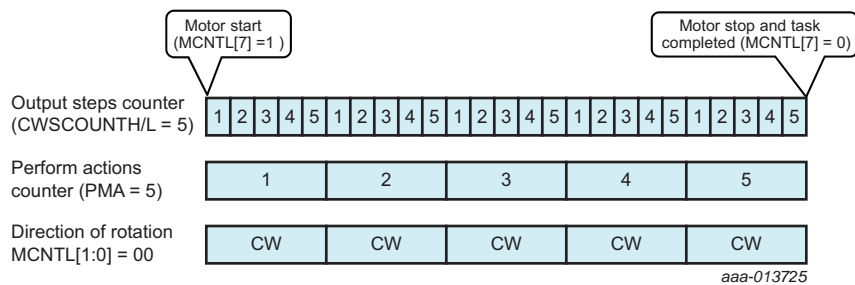
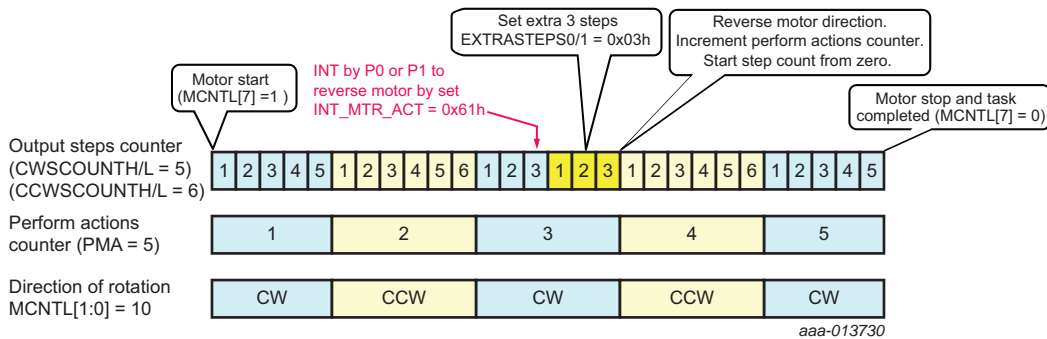

Fig 11. Set MCNTL = 0x80h to start motor and rotate clockwise (CW) only
Fig 16. Set MCNTL = 0x82h to start motor and an interrupt P0 or P1 to reverse motor direction with 3 extra steps
- MCNTL = 0x80h, 0x81h, 0x82h, 0x83h as shown in Figure 11 through Figure 16 for the motor operation.